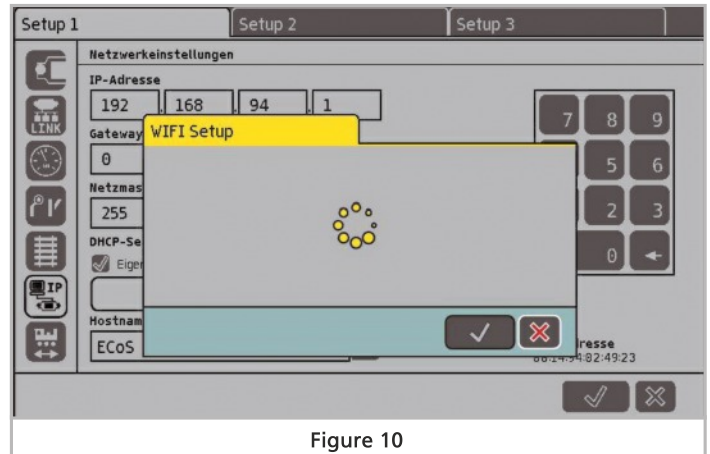

Figure 10
- The ECoS will now search for the Mini Access Point. Be patient, this process may take up to 30 seconds, see Figure 10.